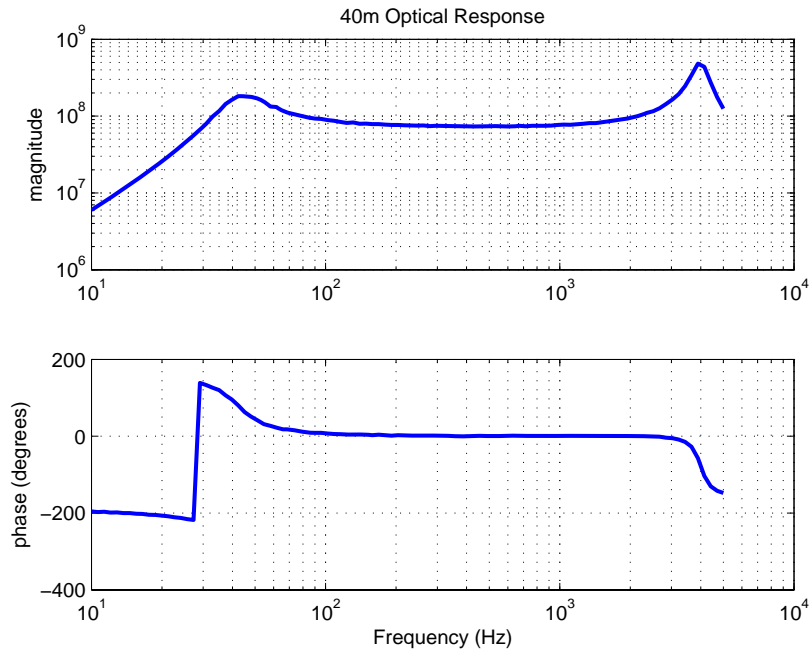

Figure 6 : 40m Optical Response: optical spring peak at 4Hz and RSE peak at 4kHz
- The *OptResp.eps* figure (Fig. 6) shows the optical response of the 40m IFO obtained using the data file *OptResp.dat/.dhr*. The file *OSfreq.in* has to be used to repeat the simulation.